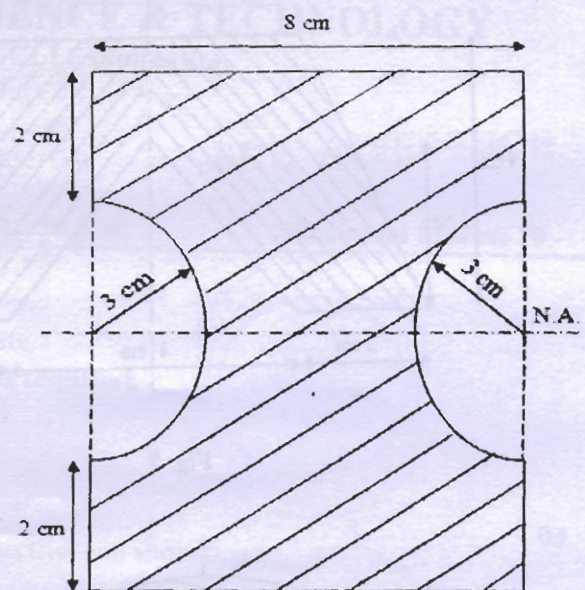
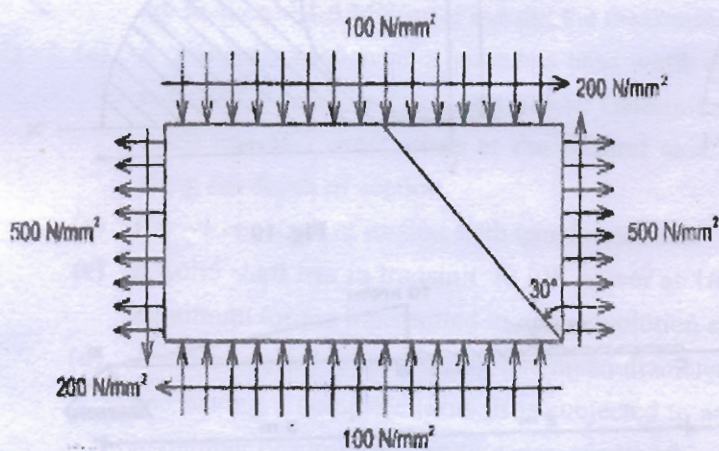

Fig. 2
Fig. 3
- Q - 2 (a) The section of a beam shown in Figure 2 is subjected to a shear force of 200 kN. Determine the shear stress at significant points and sketch the shear stress distribution diagram. 03
- (d) A shaft of 100 mm diameter transmits 112.5 kW power at 180 rpm. A flanged coupling is keyed to the shaft by means of a key 100 mm long and 30 mm wide. The coupling has 6 bolts of 20 mm diameter symmetrically arranged along the bolt circle of 300 mm diameter. Calculate shearing stresses in the shaft, the key and the bolts of the coupling. 04
- (a) At a point in a strained material, the intensities of Normal stress across two planes at right angles to each other are as shown in Figure 3. Locate the principal planes and evaluate the principal stresses (p_1 & p_2). Also find the planes of maximum shear stress ($p_{r \max}$) & its location. Find Normal (p_n), Tangential (p_t) stresses on a plane inclined at 30° with vertical as
shown in Figure.3. Use both Analytical and graphical method.